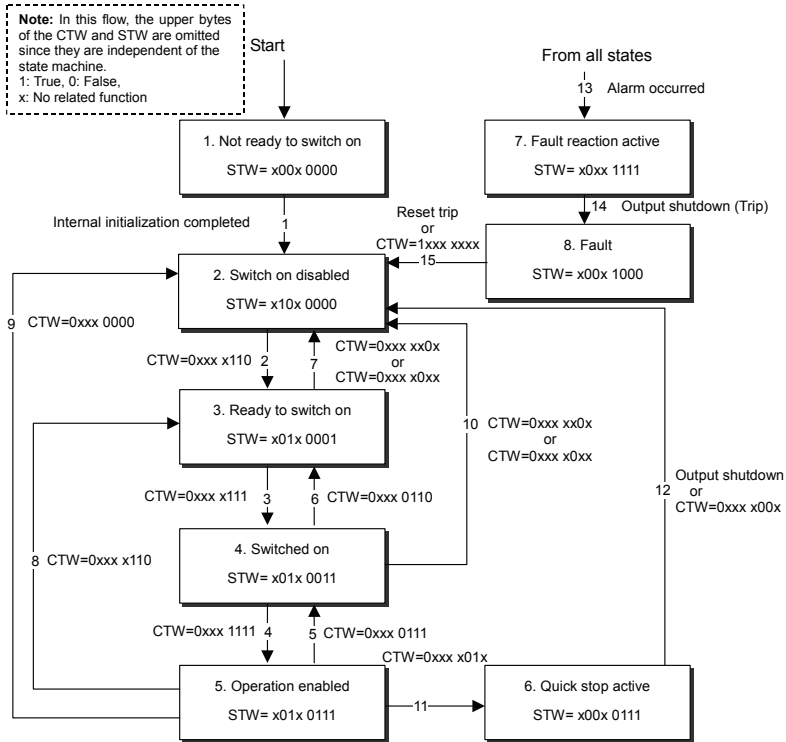

Figure 11.1 State Machine
- bits 0 to 3 : Control the state machine for state transition. See Figure 11.1.
- bits 0 to 2, 5, 6 : Status display of the state machine. See Figure 11.1.
Operating the state machine (the state transition flow in Figure 11.1) stipulated in the DSP 402 drives the inverter. Controlword (CTW in the figure) causes the state transition of the state machine, and Statusword (STW in the figure) monitors the state.
Transition to State 5 "Operation enabled" (see Figure 11.1) runs the inverter.